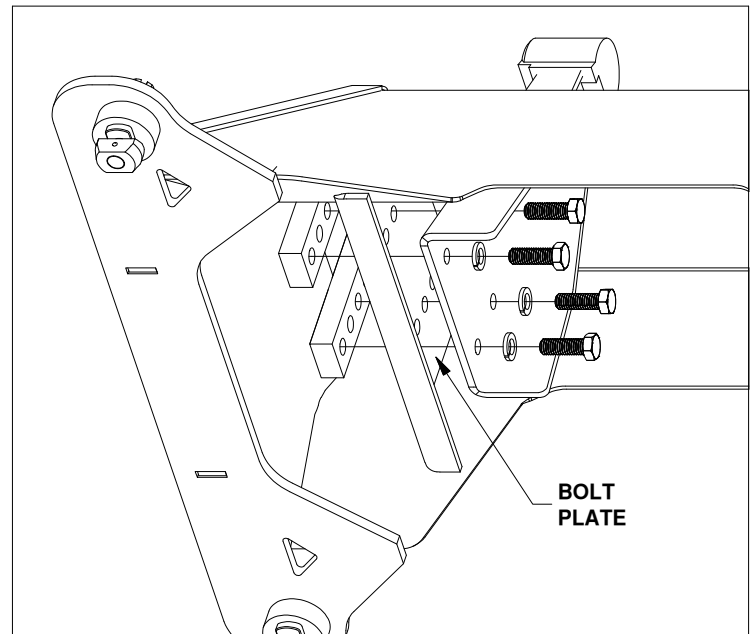

FIGURE A2: Passenger pivot arm mounting location.
2. Locate both pivot arms, the four threaded blocks, eight 1/2" cap screws, and eight 1/2" split lock washers. Place the lock washers over the cap screws. Align the flat side of the pivot arm flat against the bolt plate and install four 1/2" cap screws through the holes on the arm, holding the arm in place, as shown in Figure A2. Locate the threaded blocks. Note that the sides of the block have threaded holes on one side and smooth bored holes on the other side. When installing the threaded blocks it is critical that the side with the smooth holes is flat against the bolt plate when installed. It is also critical that each of the five holes in the threaded block match up with the five vertical holes in the bolt plate. Pass the threaded block under the bases side and align the block with each set of screws and start each screw, as shown in Figure A2. After all the screws are started through the arms, torque each bolt to 80 ft-lbs.